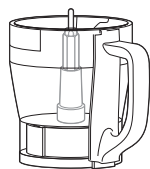

Fig. 7
- 4 Insert the spindle into the bowl. (Fig. 7)